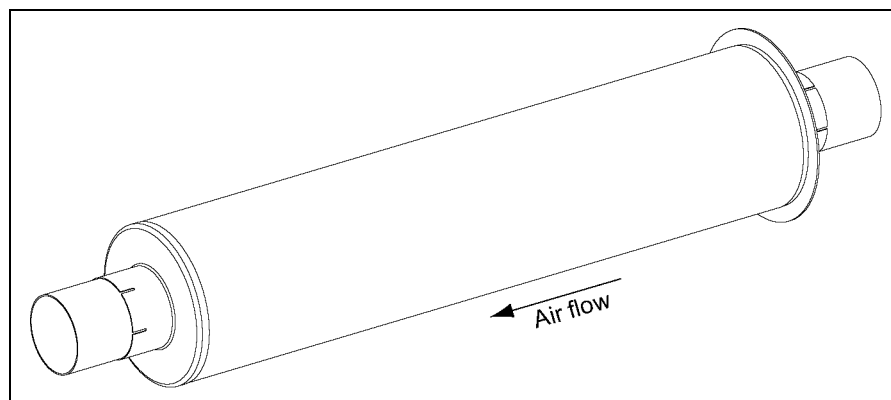

Figure 7E
NOTE: In horizontal applications, the silencer (C) will be installed to the blower outlet as shown in Figure 7E.